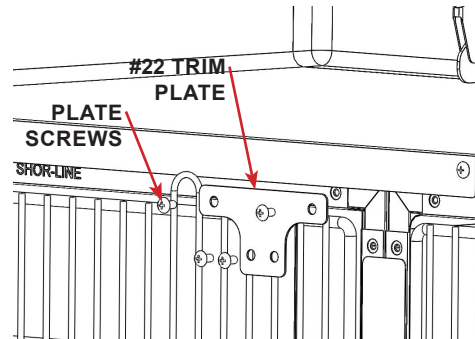

FIGURE 2.44 - Trim Plate #22
STEP 21: Install, but do NOT fully tighten screws, trim plate (#22) using the screws removed in the previous step. See FIGURE 2.44